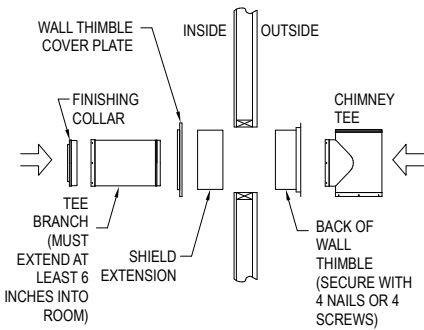

Figure 20
shield. On the outside wall, install the back portion of the Wall Thimble. Center the back portion of the Wall Thimble (with shield inside wall) in the framed opening of the outside wall. Be sure to seal the flange of the Wall Thimble around the wall by using a non-hardening waterproof sealant. Attach the back portion of the Wall Thimble to the outside wall using at least (4) 8-penny nails or (4) 1-1/2" wood screws (**Fig 20**). Depending on the thickness of your wall, you will need to adjust the shield extension to insure that you have a continuous shield throughout the wall penetration. Adjustments can be made by sliding the extension in or out of the back portion of the shield. Verify that the shield extension reaches the front cover plate when the cover plate is in position. Do not install cover plate at this time. When the shield extension is in position, secure it to the back portion of the shield using (4) sheet metal screws (**Fig 20**).
**Important:** The Chimney section used to penetrate through the wall must extend at least 6" into the room. Secure the Chimney Branch to the Tee by using the (6) sheet metal screws provided. It is very important that a good connection is made between the Branch and the Tee. (**Fig 20 & 21**) Install the Tee Cap in the bottom of the Tee, on the underside of the Tee Support Bracket. Be sure that the Tee Cap is securely inserted into the bottom of the chimney pipe. Secure the Tee Cap in place by attaching the Tee Cap Retainer Bar using the two (2) bolts included (**Fig 19**).